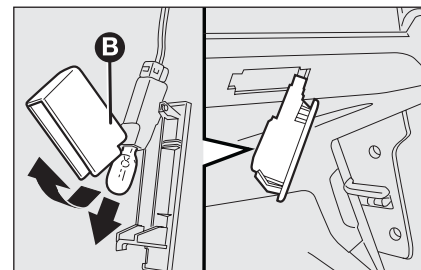

fig. 43
- ☐ open the protection cover **B-fig. 43** and replace the snap-fitted bulb;